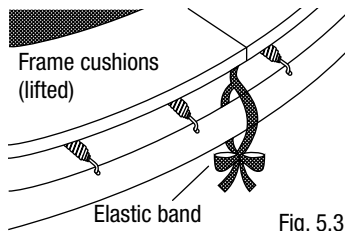

Fig. 5.3
- c) Pull the elastic bands not tied around the leg supports tightly, so that the frame cushions are covered. Tie both ends together (Fig. 5.3)